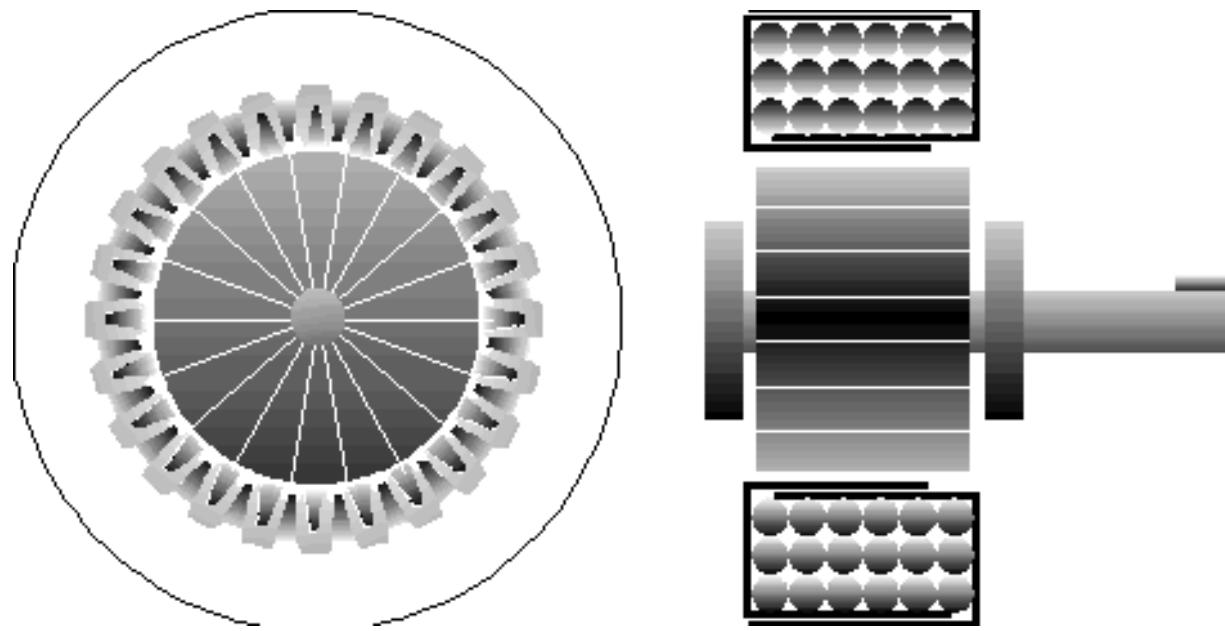

Figure 2. cross section through a permanent magnet
- Figure 2 shows the schematic for the stepper motor. Pulsing the coils, or phases, sequentially will cause the motor to rotate clockwise or counter-clockwise depending on the sequence chosen. The speed of rotation is determined by the frequency of the pulses to the coils.
The **permanent magnet** (PM) or **tin can** (fig. 2) motor is perhaps the most widely used stepping motor in non-industrial applications. In its simplest form the motor consists of a radially magnetized permanent magnet rotor and a stator similar to the **V.R.** motor. Due to the manufacturing techniques used in constructing the stator they are also sometimes known as '**claw pole**' motors.